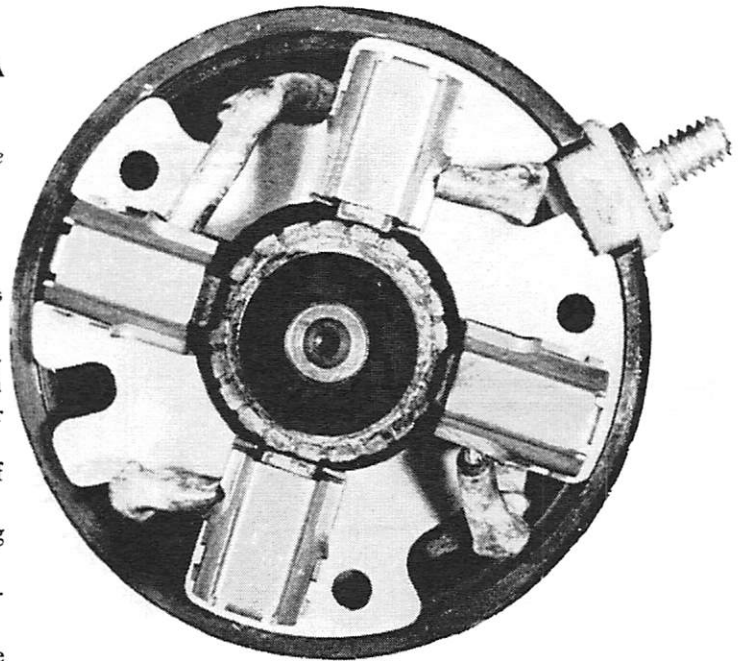

Figure 1. Brush and Brush Holder Aligned
4. Install brushes into brush holder and depress brushes and brush springs while sliding over commutator bars. Check for proper alignment of brush and brush holder, as they will only fit onto field body one way. (Fig 1)